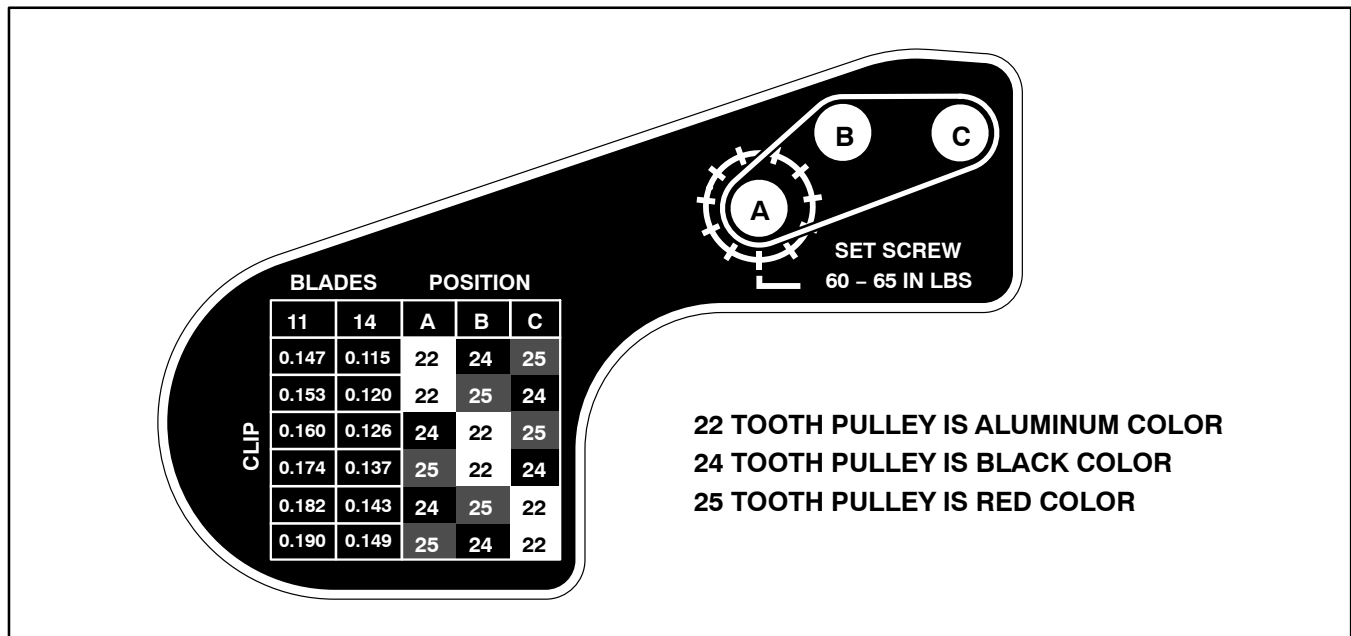

Figure 8
Cutting unit clip adjustment on the Flex machines can be changed by installing the cutting unit drive pulleys to the appropriate locations on the reel drive assembly. Clip frequency pulley locations for 11 blade and 14 blade cutting units are shown in Figure 8 below.
3. Loosen two (2) set screws from drive pulleys that are to be removed. Slide pulleys from shafts.
4. Apply antiseize lubricant to top of woodruff keys. Arrange pulleys on reel drive assembly as needed for desired clip frequency (Fig. 8).
5. Secure all pulleys with two (2) set screws. Torque screws from **60 to 65 in-lb (6.8 to 7.3 N-m)**.